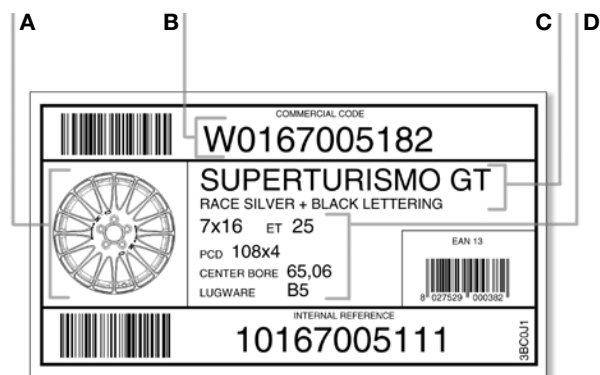

Fig. 1 - Identification
- the material you have received is what you ordered (check the descriptive labels on the outside of the box (fig. 1));